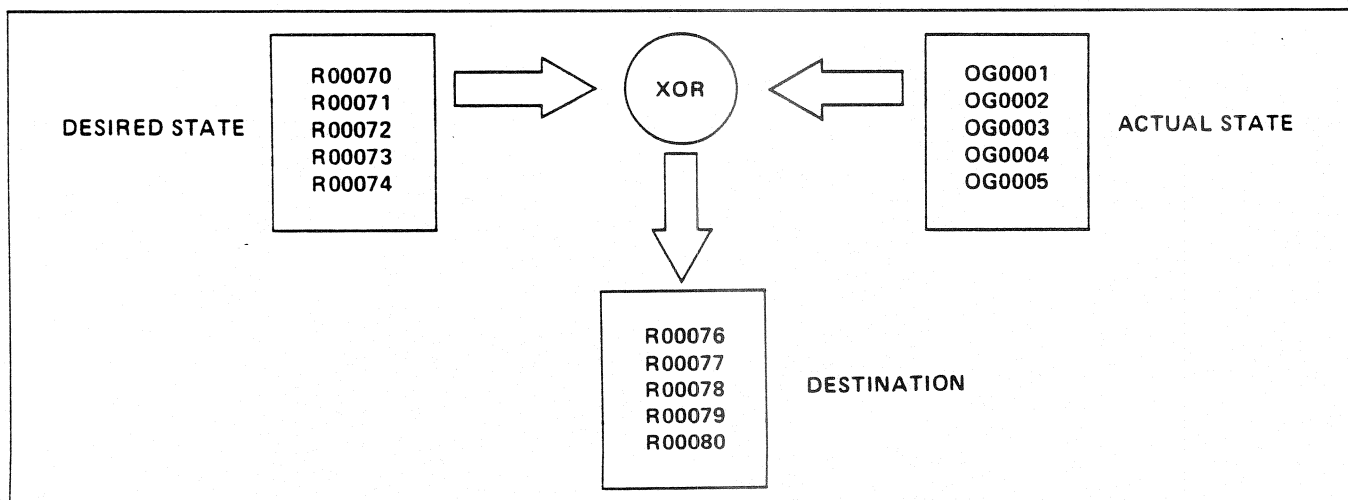
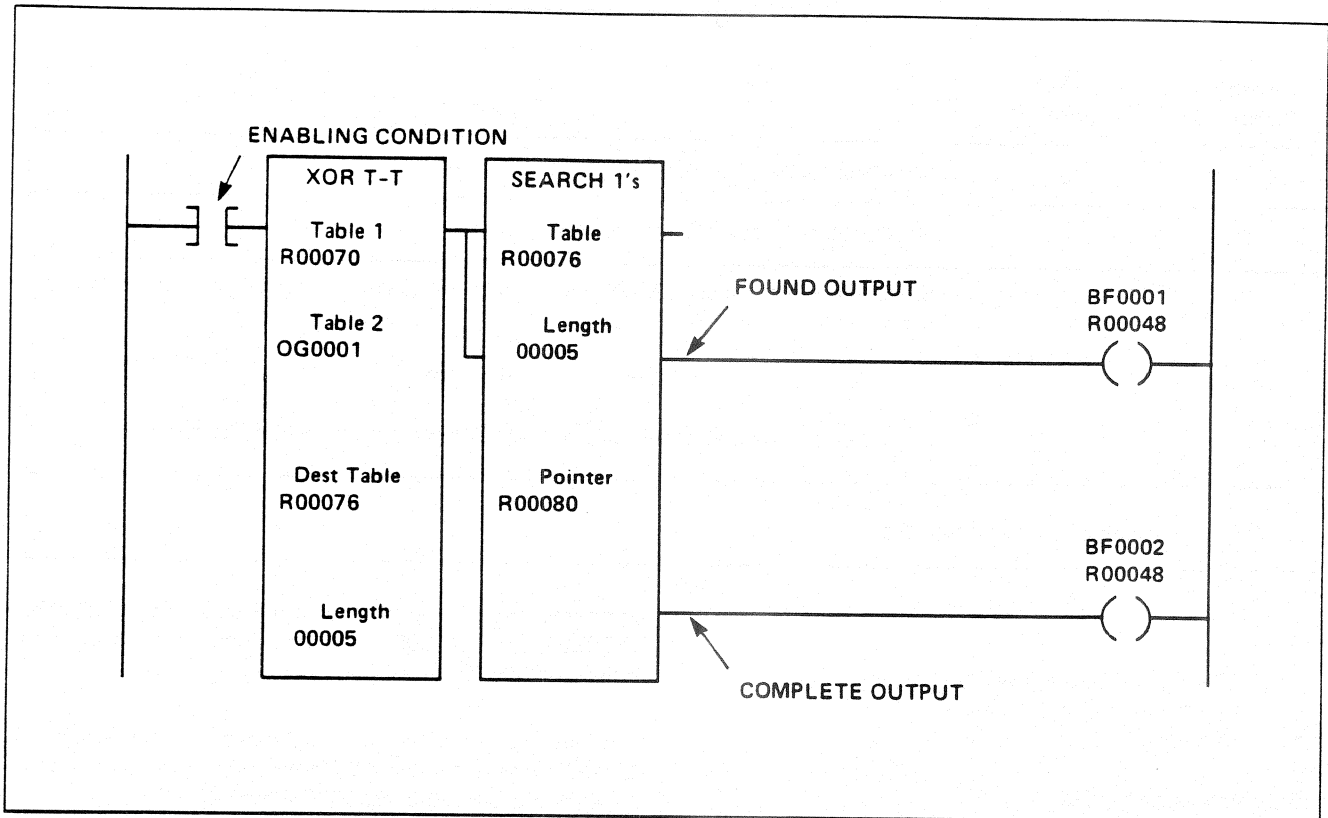

Figure SO-3. Examine Outputs Examination
Figure SO-4. Examine Outputs Application
The Search 1's function can be used as part of a monitoring program where outputs are examined for predetermined states. (See Figure SO-3.) By performing an exclusive OR type comparison between actual outputs and a table containing the predetermined, or "desired-state," conditions, any deviations can be detected as a 1 condition stored in the Destination Register. Observe the ladder diagram shown in Figure SO-4 and note the following 4 points:
1. The Exclusive OR Table-to-Table function (101)
4. The found output enables bit 1 of holding register R00048. Contacts from this bit (not shown in Figure SO-4) would be used to perform operations such as disabling the machine or process or storing the bit data from the Pointer Register (R00080) for use by the ladder diagram or subsequent maintenance operations.